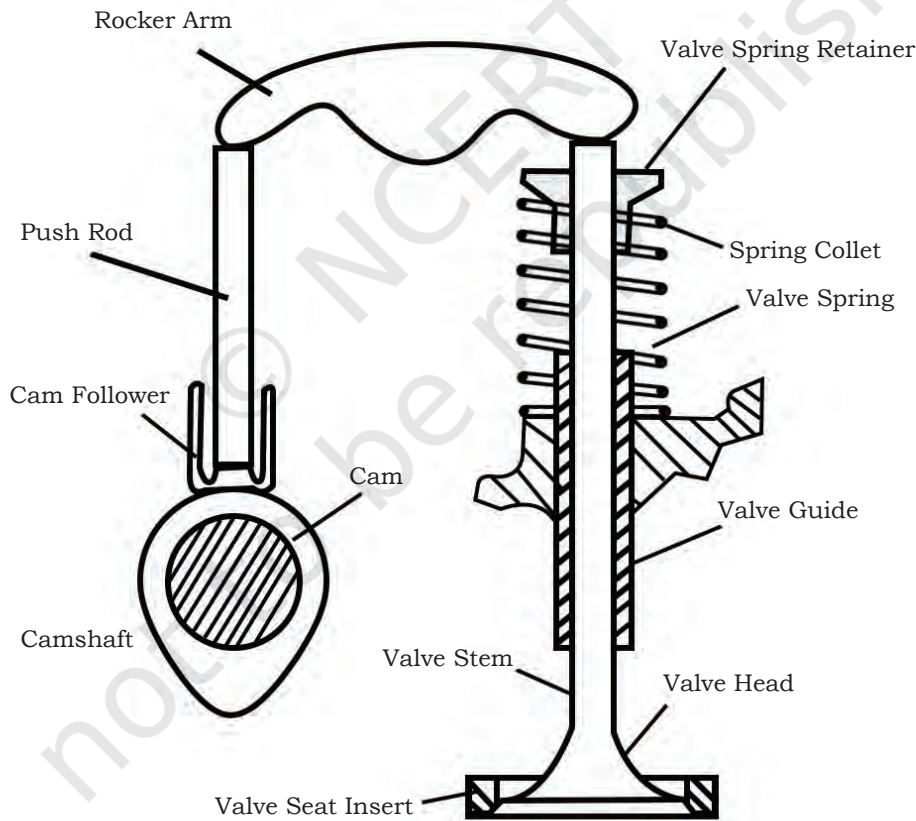

Fig. 3.11: Push Rod and Rocker Arm
14. Push Rod and Rocker Arm: The motion of the cam lobe pushes the valve lifter upwards. This movement pushes the push rod (Fig. 3.11) and the rocker turns the upward motion of the push rod to the downward movement of the valve stem resulting in opening of the valve.